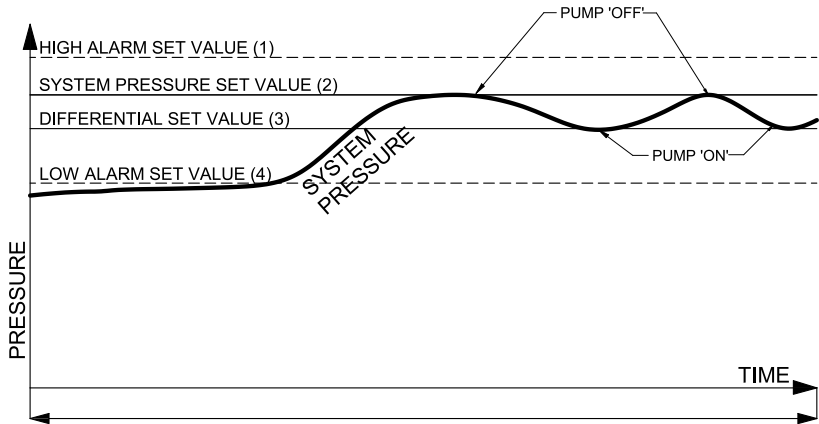

Fig. 18
<p>P1 System pressure (2) see Fig. 18</p>	<p>Sets the required system pressure. Set in 0.1 bar increments up to the maximum set value for the CORE model. CORE Mini130 &amp; CORE Mini230, 3.0 bar max.</p>
<p>P2 Differential pressure (3) see Fig. 18</p>	<p>Sets the pressure the CORE Mini will turn on at as the system pressure falls. Relative to the set system pressure. Set in 0.05 bar increments below the System pressure (2), cannot be set above 0.1 bar below the System pressure (2).</p>
<p>P3 Hi Alarm (1) see Fig. 18</p>	<p>Sets high system pressure alarm. Set in 0.05 bar increments above the System pressure (2). Cannot be set below System pressure + 0.5 bar. Alarm auto resets when system pressure is reduced below alarm level.</p>
P4 Lo Alarm (4) see Fig. 18	Sets low system pressure alarm. Set in 0.05 bar increments below the System pressure (2) - Differential pressure (3) - 0.05 bar. Alarm auto resets when system pressure is increased above alarm level
During normal operation the CORE Mini will monitor the system pressure and re-pressurise the system if the system pressure drops below the system pressure – differential pressure. See Fig. 18.